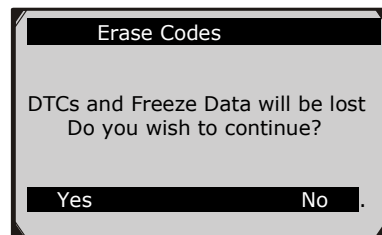

Figure 6.10
3. If you press **Yes** function key or **OK** button, a warning message will come up asking your confirmation. (Figure 6.10)